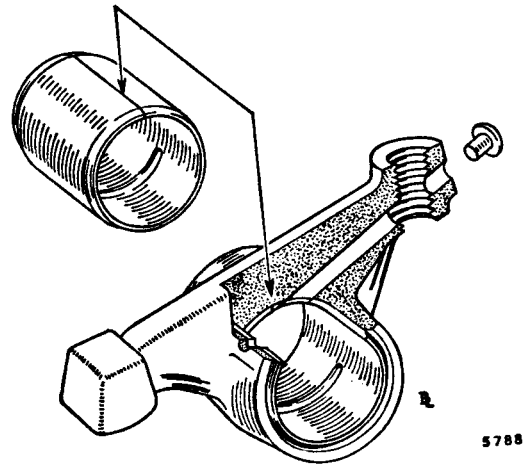

Fig. A.3
10. Locate the joint of the bush at the top as shown in Fig. A.3.